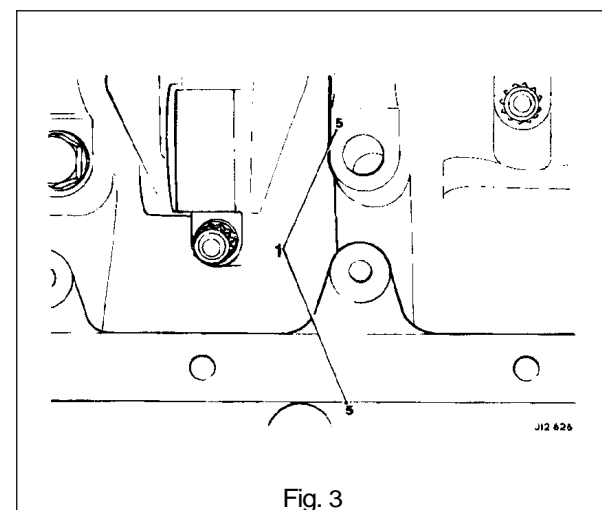

Fig. 3
- Ensuring that the main bearing caps are marked relative to the cylinder block (1 Fig. 3), remove the main bearing cap bolts and the bearing caps, and carefully lift out the crankshaft.